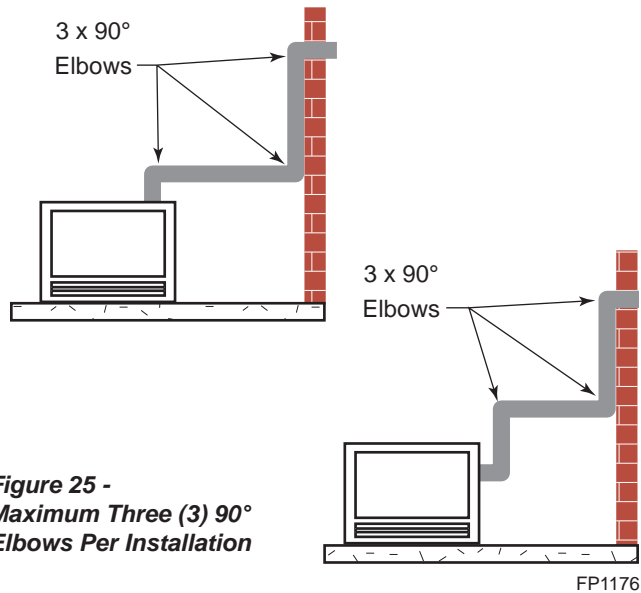

Figure 25 - Maximum Three (3) 90° Elbows Per Installation
- The maximum number of 90° elbows per side wall installation is three (3). *Figure 25*
- Combustible Exterior Walls:** Cut a 10½"H x 10½"W square hole through the exterior wall frame. Figure 25